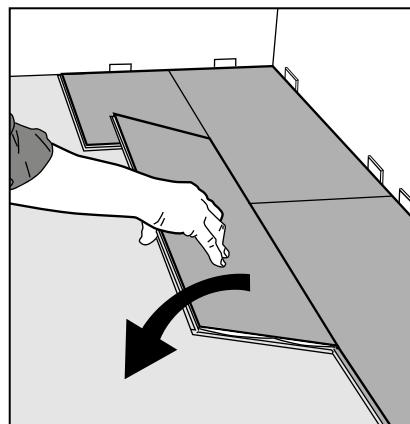

Figure 17 Second plank, second row
- Gently place the panel close to the short end of the previous one (Fig 17) and fold it down in a single action movement ensuring the corner of the long and short sides connect into the corresponding profiles of the short edge of the first panel second row, and the long edge lower profile of the corresponding panel in the previous row respectively.